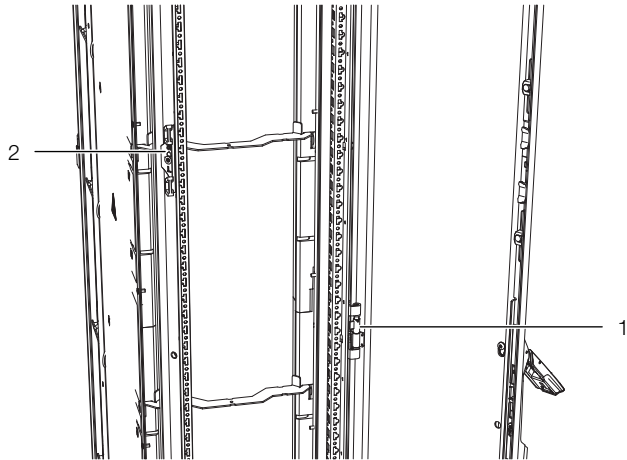

Fig. 30: Assembly components on the Liquid Cooling Package – rear view
- Dismantle the hinge pin holding fixtures (fig. 30, item 1) and corresponding fixing components (fig. 30, item 2) from the LCP Inline and reassemble at the rear of the adaptor in the same way.